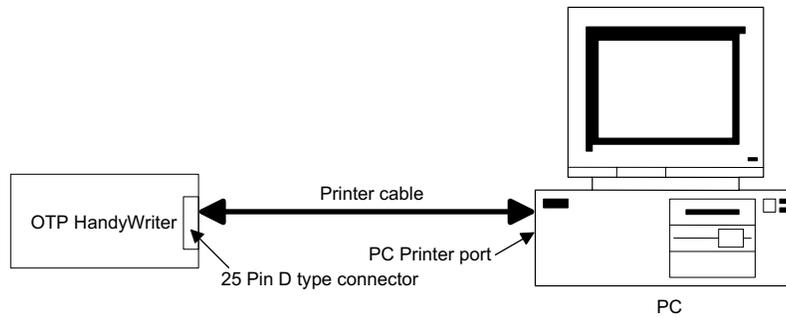
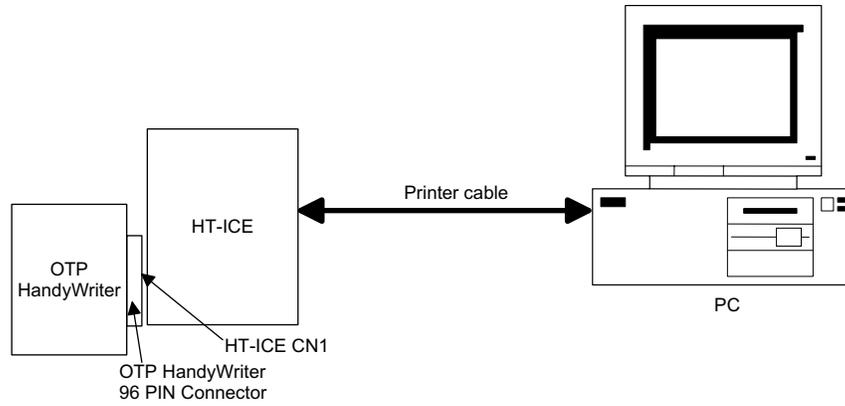

Fig 8-2
Fig 8-3
- To directly connect to a PC, use the printer cable to connect from the HandyWriter's 25 pin D-type connector to the printer port of the PC as shown in Fig 8-2. To connect via the HT-ICE, first connect the HandyWriter to the VME 96 pin socket CN1 on the HT-ICE then connect the HT-ICE to the PC's printer port using the printer cable as shown in Fig 8-3.